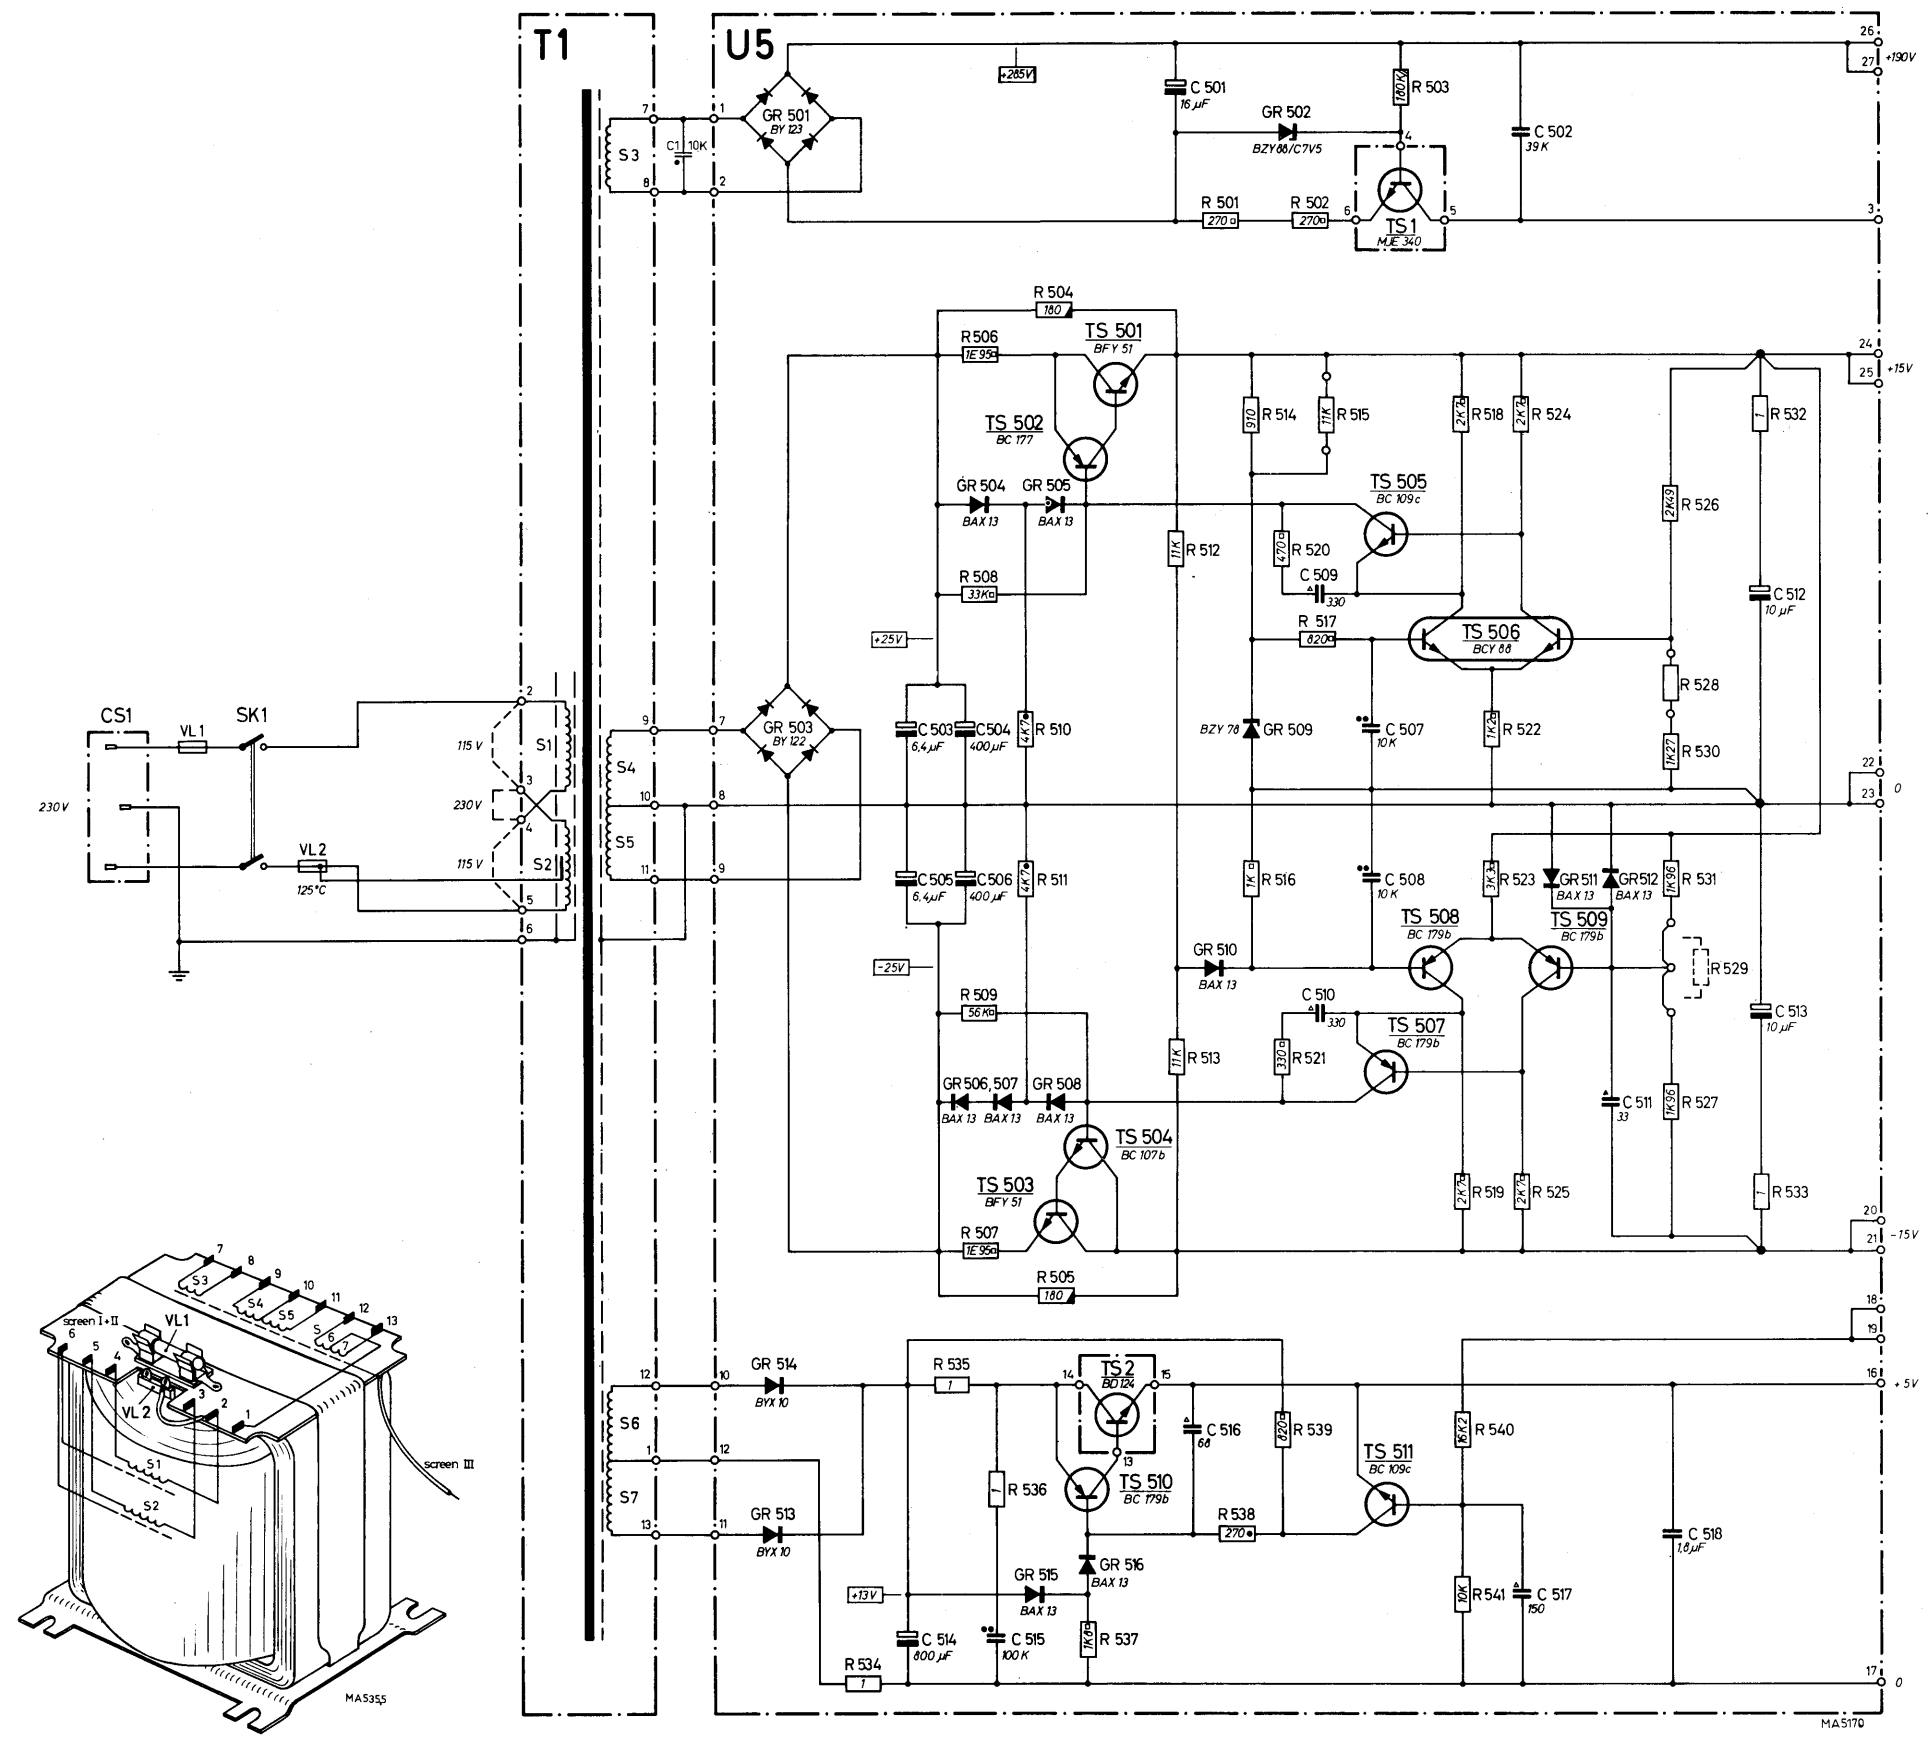

Fig. 41. Circuit diagram supply section
G. SUPPLY SECTION (U5) Fig. 41